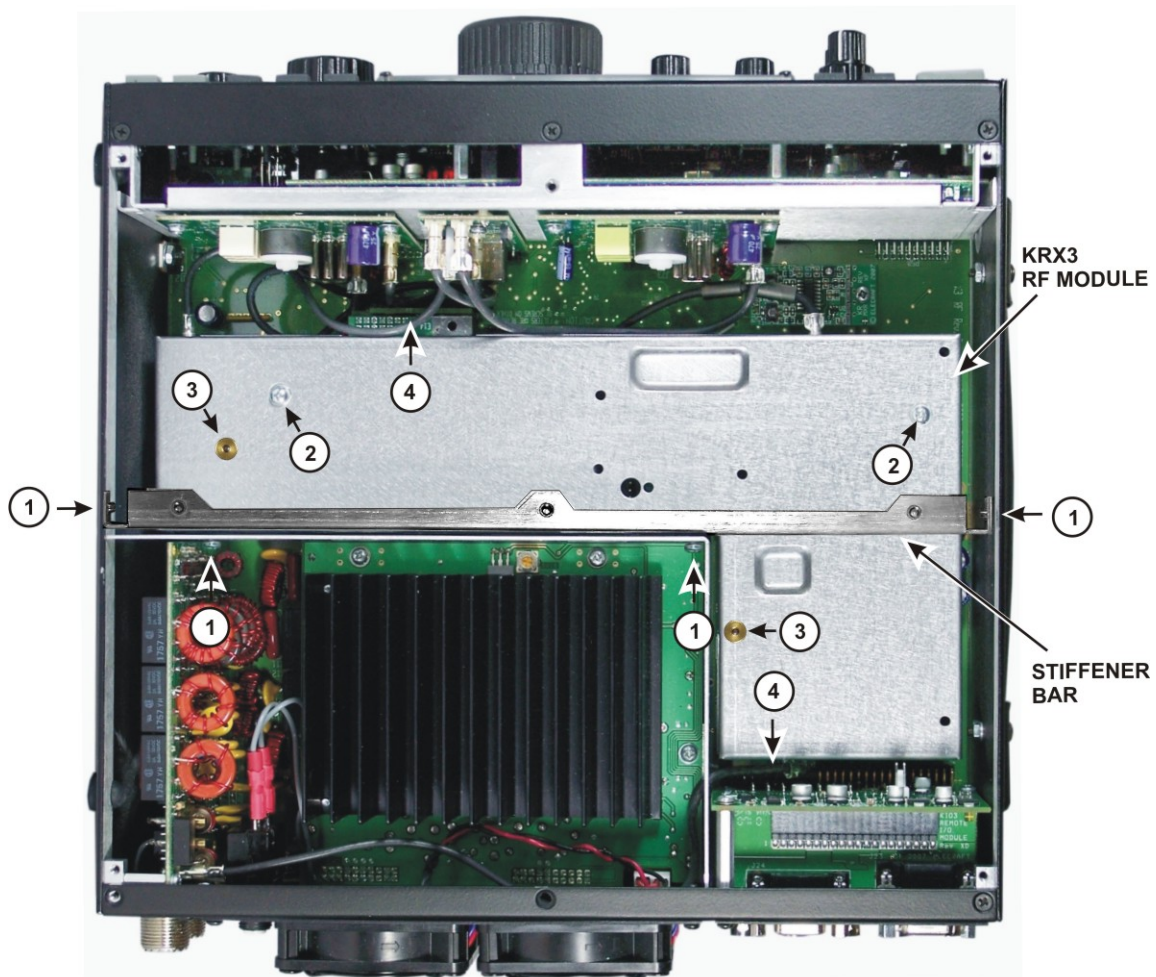

Figure 2. Removing the KRX3 RF Module.
The crystal (roofing) filters in the KRX3 subreceiver are contained in the L-shaped RF module mounted above the main K3 RF board (see Figure 2). Installing or changing the filters involves removing the RF module and the circuit board inside. The filters plug into the circuit board and are held in place by screws. No soldering is required.
- Remove the KRX3 RF module as follows. The circled numbers refer to Figure 2 below.
- Remove the four screws (1) holding the stiffener bar that crosses the top of the K3. If your K3 does not have the optional KPA3 100 watt amplifier, the bar is held by only the screws at the ends.
- Remove the two long screws (2) that attach the KRX3 enclosure to the K3 main board.
- Grip the knurled nuts (3) and lift the KRX3 enclosure up and out of the K3. The enclosure will unplug from two interface boards (4), one near the front and the other at the back. Also there will be two coaxial cables attached to the forward edge and usually one cable attached at the back of the enclosure. Carefully unplug these cables holding onto the metal finger grip, not the black coax. The connectors are held by friction and slide apart. They do not unscrew.
- Remove the two small interface boards (4) that plug into the board on the bottom of the K3 and the KRX3 enclosure. The boards may still be attached to the K3 main board or may be attached to the connectors on the KRX3 RF module. Set them aside in an ESD-safe place.
- Place the KRX3 RF enclosure on your work table. Remove the two knurled nuts (3) and lift the top half of the KRX3 RF enclosure off of the lower half